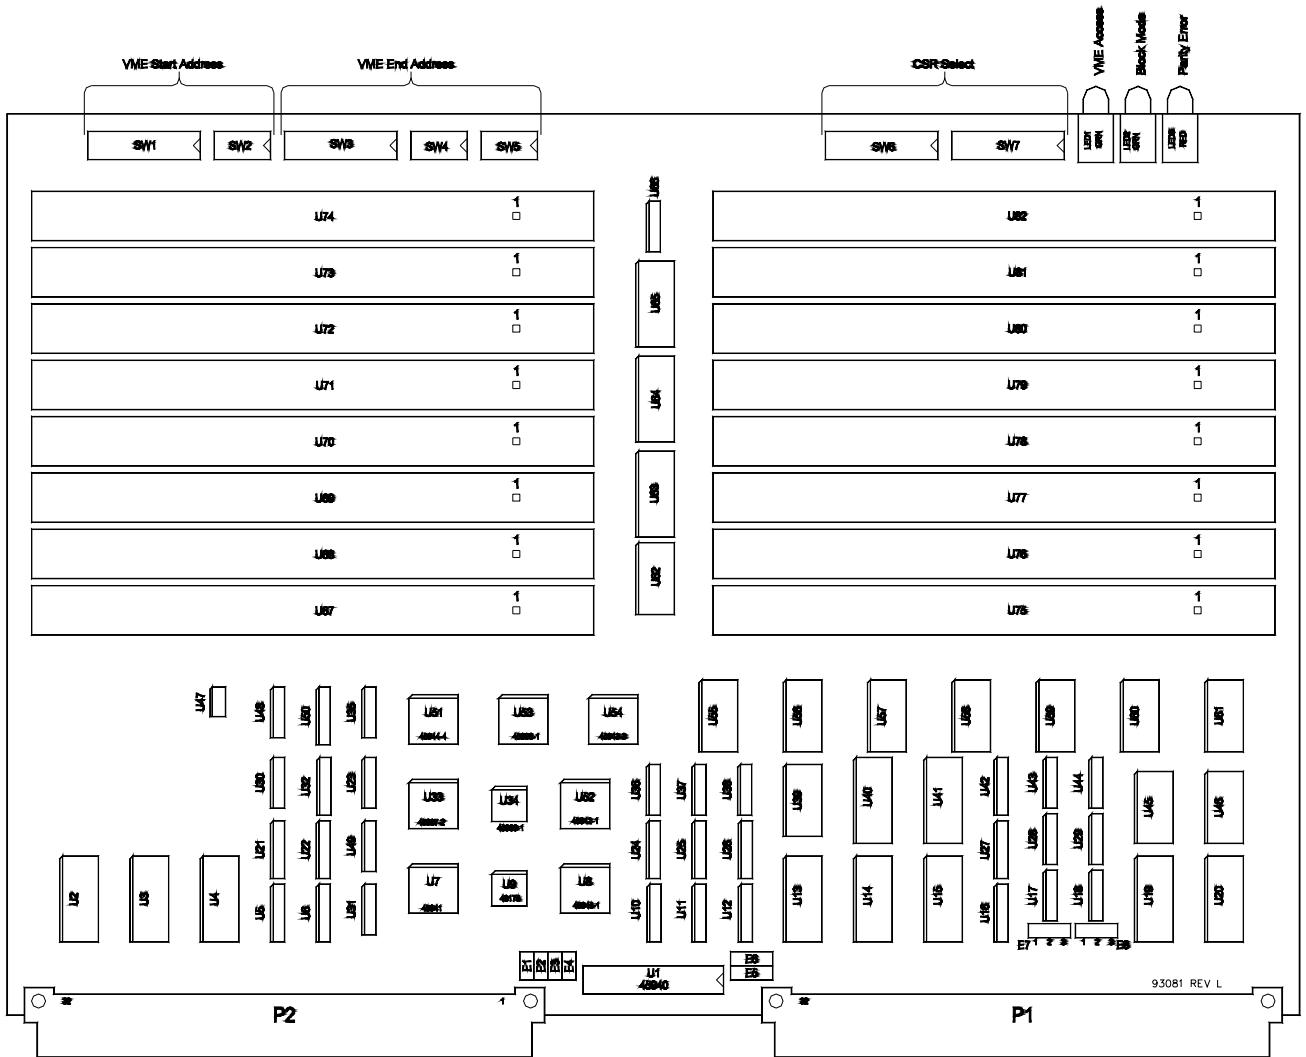

Figure 5 - Board Layout
The MM-6290D High Speed Memory contains seven (7) major switches that must be configured prior to installation before proper operation can be obtained. (See Figure 5 - Board Layout for switch locations) These are sW1 through sW7. A closed switch position represents a 0, and an open switch position represents a 1.